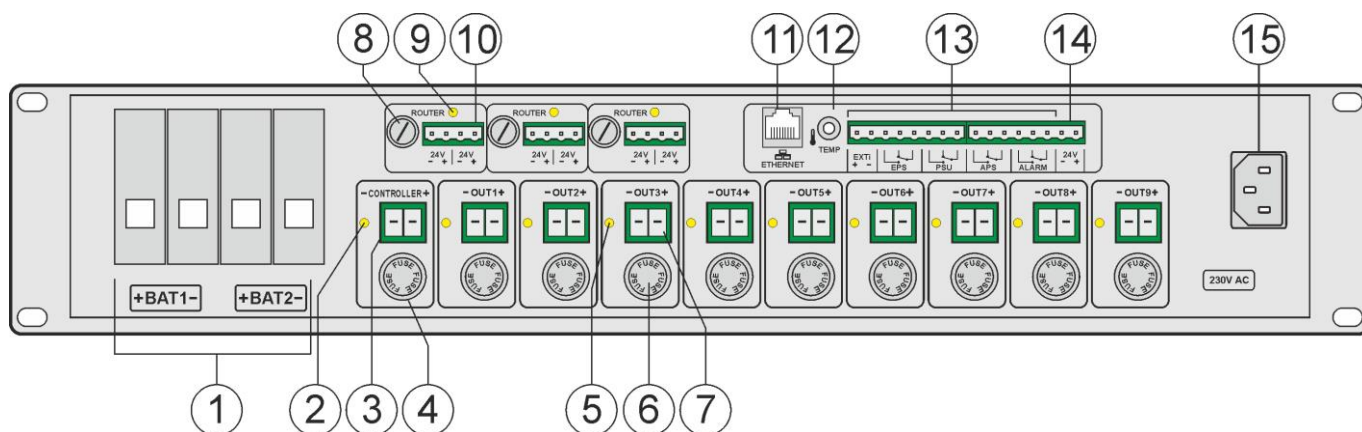

Fig. 17. Rear panel of the power supply in the maximum configuration.
③	The "CONTROLLER" 24 V power supply output of the controller
④	The controller power output fuse (F 10 A / 250 V / 6,3x32mm)
⑤	Amplifier fuse status LED
⑥	The amplifier power output fuse (F 30 A / 250 V / 6,3x32mm)
⑦	The 24V power supply output of the amplifier „OUT1” ÷ „OUT9”
⑧	The router power output fuse (F 6,3 A / 250 V / 5x20mm)
⑨	LED light indicating the router fuse status
⑩	The "ROUTER" 24 V power supply output of the router
⑪	The "ETHERNET" output
⑫	Input of the "TEMP" temperature sensor
⑬	technical output connector: EXTI – technical input of collective failure EPS – technical output of AC power failure indication - relay type PSU – technical output of power supply failure indication - relay type APS – technical output of battery failure indication - relay type ALARM – technical output of collective failure of the PSU - relay type CAUTION! In Fig.17 the set of contacts shows a potential-free status of the relay which corresponds to a failure.
⑭	The 24 V power supply output of the indication panel
⑮	The 230 V power supply input